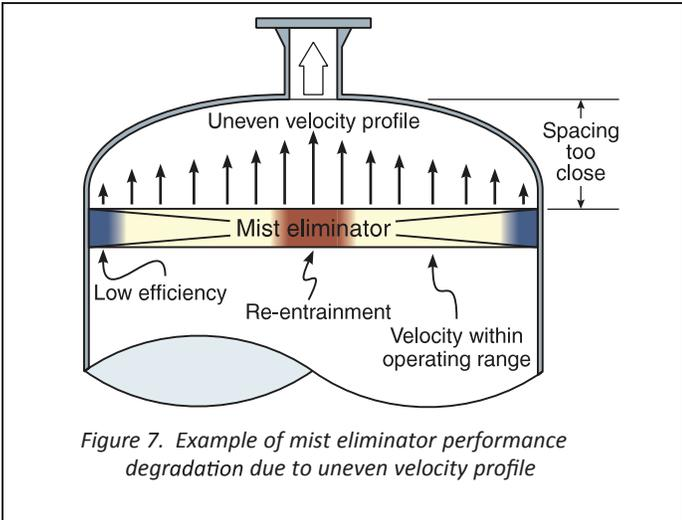

Figure 7. Example of mist eliminator performance degradation due to uneven velocity profile
liquid re-entrainment and low velocities with poor efficiency as shown in Figure 7.
2. Without enough space to diffuse the jet, gas utilizes only part of the mist eliminator. Due to uneven velocity profile, liquid carryover occurs as in Figure 7.